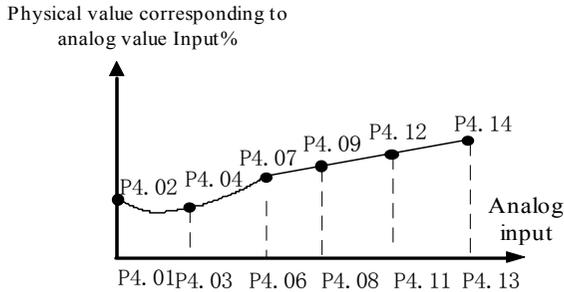

Figure. 5-4-2 Analog input non-linear curve
- ◆ When P4.00 is set to 1 or 3, the function of P4.01~P4.04, P4.06~P4.09 and P4.11~P4.14 are different to Note 1. User can define their own nonlinear curves by setting these parameters. Six points can be set on the curve. As shown in Figure. 5-4-2. In addition, the setting value to P4.01, P4.03, P4.06, P4.08, P4.11, P4.13 must increase in order.